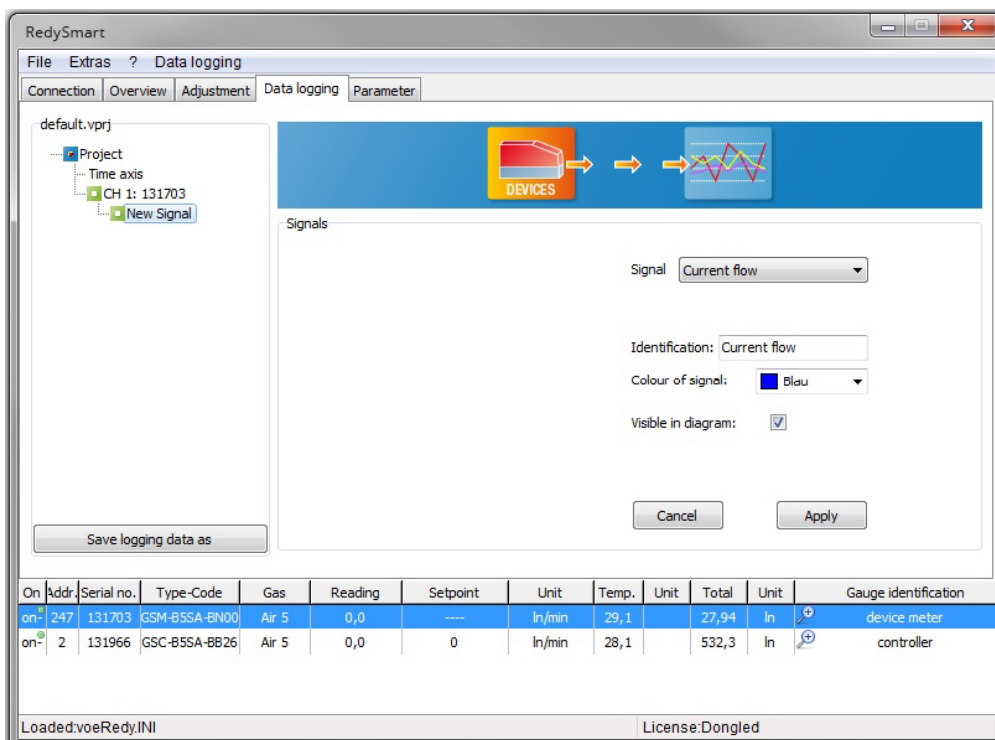

Figure 41: Signals can be added to Channel 131966
A. Available Channels: All the available devices (Channels) are listed here. Double-click the serial number or click the [Accept] button to display a new window as shown in Figure 41.